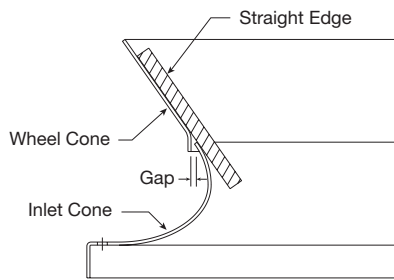

Figure 1
1. Rotate the fan wheel by hand and assure no parts are rubbing. The wheel should rotate freely and be aligned as shown in Figure 1. Wheel position is preset and the unit is tested at the factory.
Alignment - If necessary, adjust wheel position by loosening the wheel hub (see Tapered Bushing Installation and Removal on page 10) from the fan shaft so that a straight edge held tight to the wheel cone just touches the inlet cone. Refer to Figure 1.
4. Adjust the axial location of the wheel in the fan relative to the inlet cone (venturi) as shown in Figure 1, page 9. Then tighten the socket head cap screws an eighth turn at a time in an alternating fashion and to a torque of 10 ft·lbs for QT bushings and 9 ft·lbs for SD bushings.
Wheel improperly aligned and rubbing	Center wheel on inlet cone, see Figure 1 (page 9).
Improper wheel alignment	Center wheel on inlet cone, see Figure 1 (page 9).